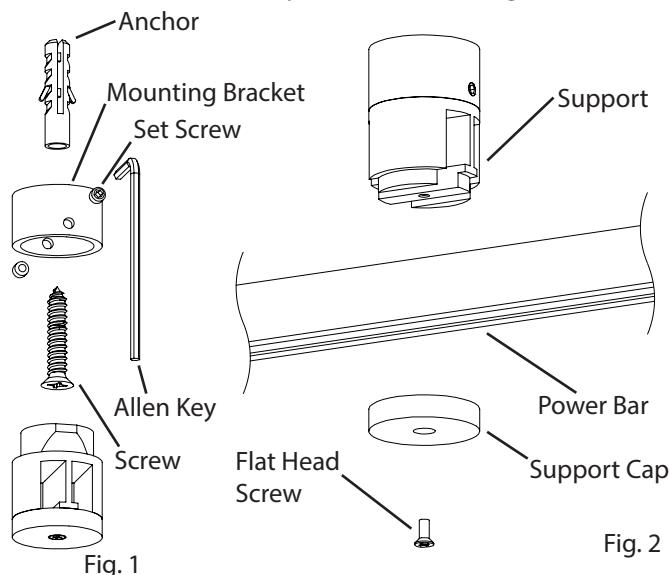

Fig. 1
1. Remove **Flat Head Screw** and both **Hanger Caps** (Fig. 1).